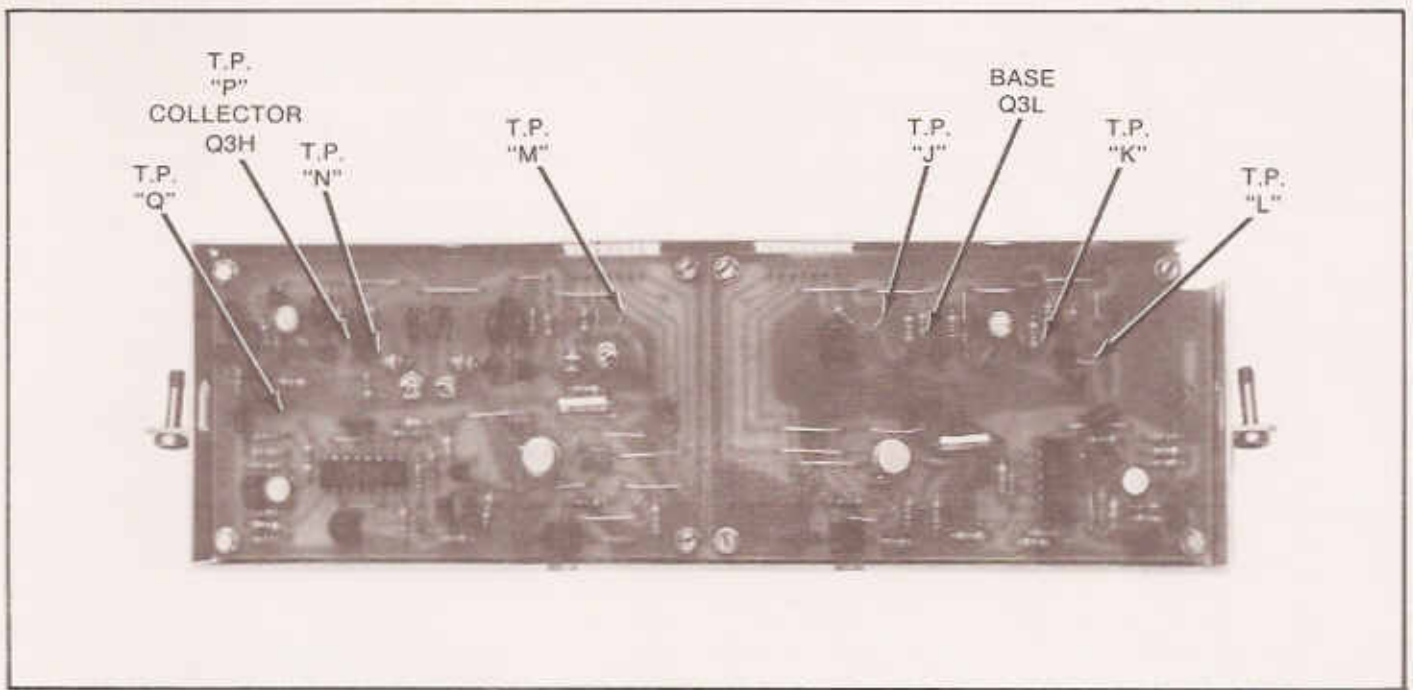

FIGURE 10. TEST POINT LOCATIONS T4AC MODULE
- B. Connect DVM between Pin #6 of IC 3 and ground (on Lo Pilot circuit board See Figure 10).
- (1) Proceed to Step 2 for defective Lo Pilot indication.
- (2) Proceed to Step 6 for Hi Pilot indication.
- (3) Proceed to Step 5 for no fault indication.